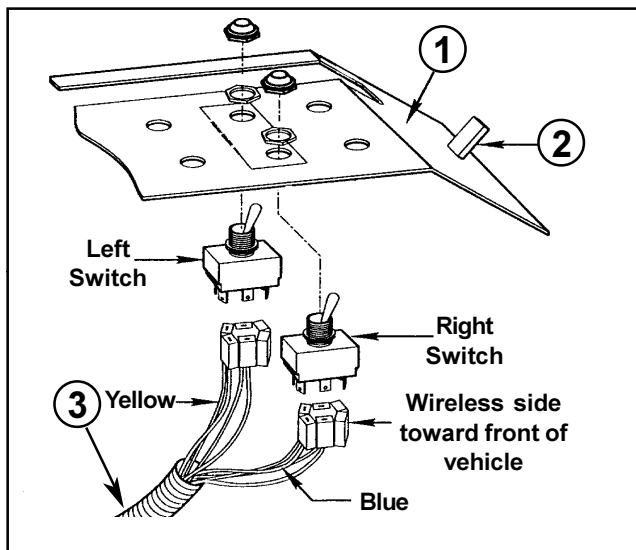

FIG 8
1. Remove the Panel Assembly from the Center Console Assembly. See FIG. 8.